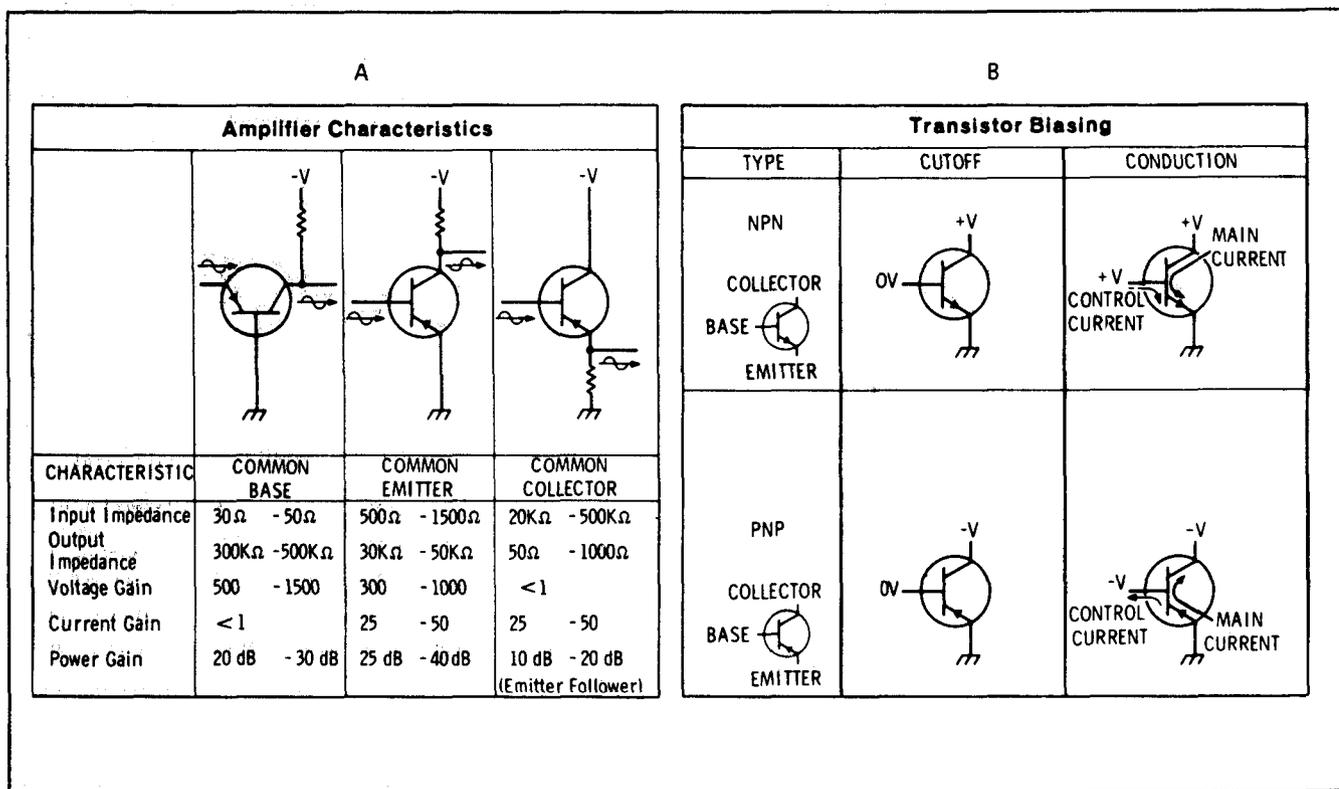

Figure 8-1. Transistor Characteristics and Biasing.
**8-24. Transistor In-Circuit Testing.** The common causes of transistor failure are internal short circuits and open circuits. In transistor circuit testing, the most important consideration is the transistor base-to-emitter junction. The base emitter junction in a transistor is comparable to the control grid-cathode relationship in a vacuum tube. The base emitter junction is essentially a solid-state diode; for the transistor to conduct, this diode must be forward biased. As with simple diodes, the forward-bias polarity is determined by the materials forming the junction. Transistor symbols on schematic diagrams reveal the bias polarity required to forward-bias the base-emitter junction. The B part of Figure 8-1 shows transistor symbols with the terminals labeled. The other two columns compare the biasing required to cause conduction and cut-off in NPN and PNP transistors. If the transistor base-emitter junction is forward biased, the transistor conducts. However, if the base-emitter junction is reverse-biased, the transistor is cut off (open). The voltage drop across a forward-biased, emitter-base junction varies with transistor collector current. For example, a germanium transistor has a typical forward-bias, base-emitter voltage of 0.2 - 0.3 volt when collector current is 1 - 10 mA, and 0.4 - 0.5 volt when collector current is 10 - 100 mA. In contrast, forward-bias voltage for silicon transistors is about twice that for germanium types; about 0.5 - 0.6 volt when collector current is low, and about 0.8 - 0.9 volt when collector current is high.
8-25. Figure 8-1, Part A, shows simplified versions of the three basic transistor circuits and gives the characteristics of each. When examining a transistor stage, first determine if the emitter-base junction is biased for conduction (forward-biased) by measuring the voltage difference between emitter and base. When using an electronic voltmeter, do not measure directly between emitter and base; there may be sufficient loop current between the voltmeter leads to damage the transistor. Instead, measure each voltage separately with respect to a common point (e.g., chassis). If the emitter-base junction is forward-biased, check for amplifier action by short-circuiting base to emitter while ob-